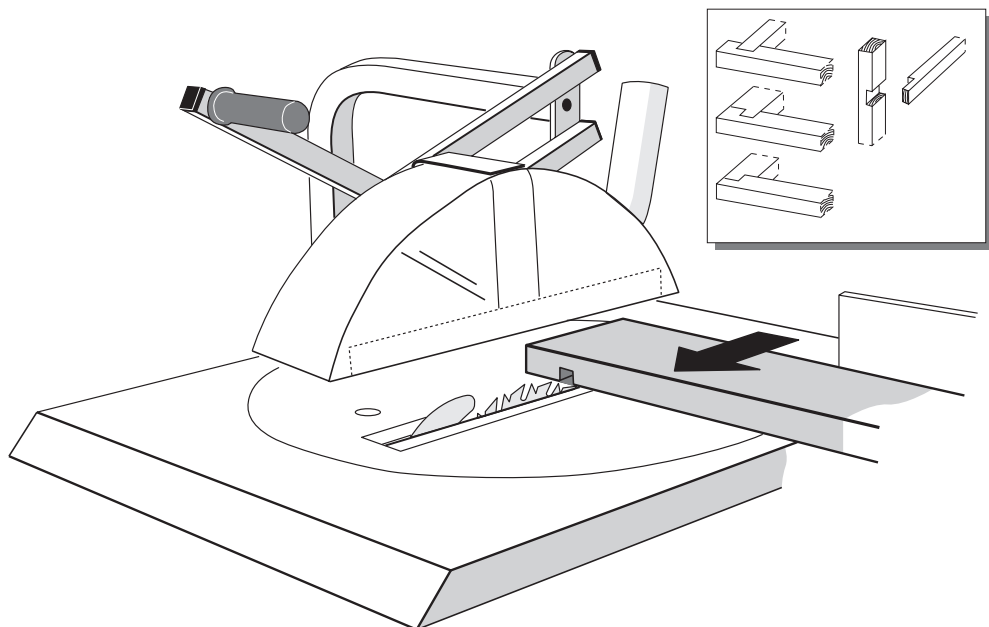

Fig. 17
- Advance material slightly along the fence and repeat the operation until the rabbet or groove has the proper width. See Fig. 17.